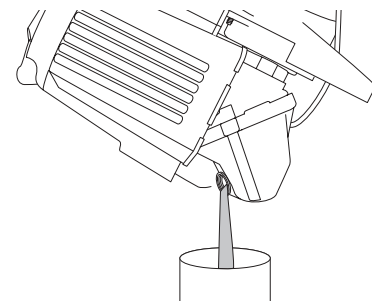

Fig. 20
4. Pour the oil out of the oil fill hole and into a container by tipping the unit to a vertical position (Fig. 20). Allow ample time for complete drainage.